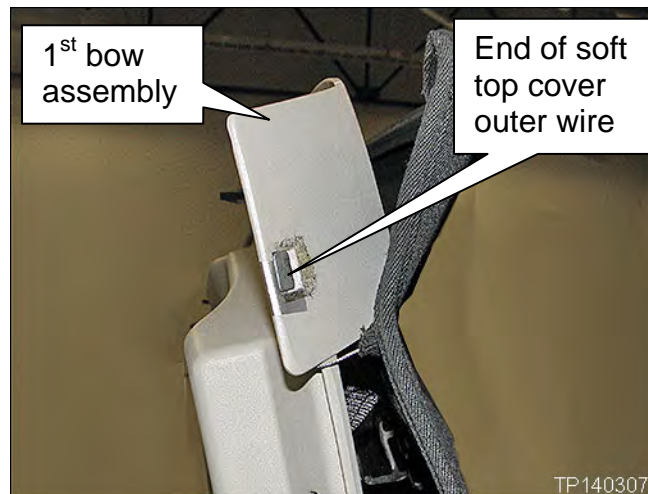

Figure 19
12. Unhook the soft top cover outer wire from the 1st bow assembly (see Figures 19 and 20).